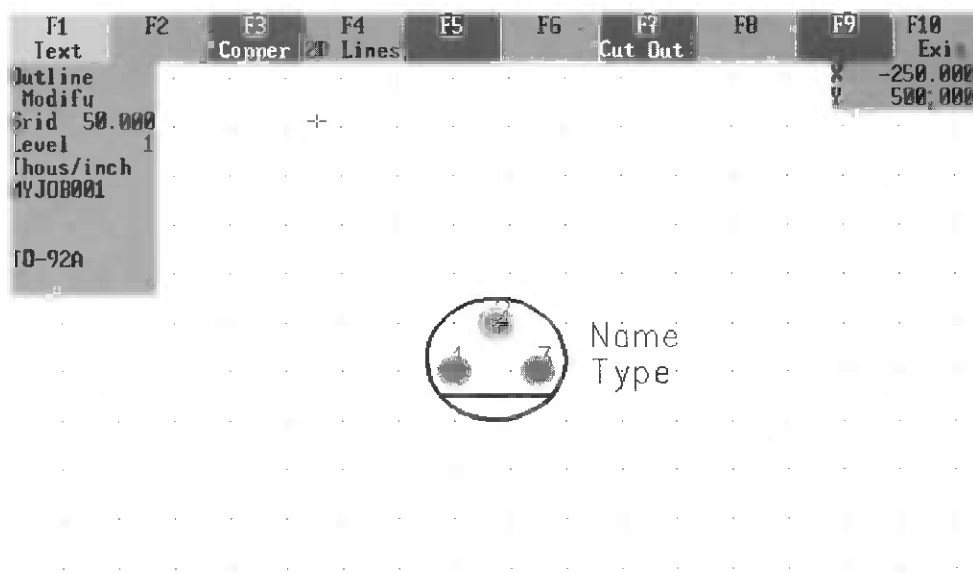

Figure 10-8 TO-92A Part Layout
- **Q1,Q2** (2N4401 transistor): Refer to Figure 10-8 for the TO-92A pin arrangement. OrCAD uses the pin names EMITTER, BASE, and COLLECTOR for all bipolar transistors. The data sheet for a 2N4401 shows pin sequence EBC corresponding to pin numbers 1, 2, and 3 respectively. Note that not all TO-92 bipolar transistors use this same pinout.